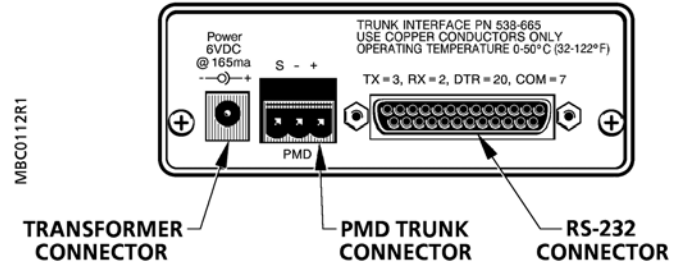

Figure 6. Rear Panel of the Trunk Interface II.
1. Attach the FLN 1 wires to the three-position trunk connector as indicated on the rear panel of the Trunk Interface II (Figure 6). The shield should be taped back or connected as required to obtain a single-ended earth grounded shield.